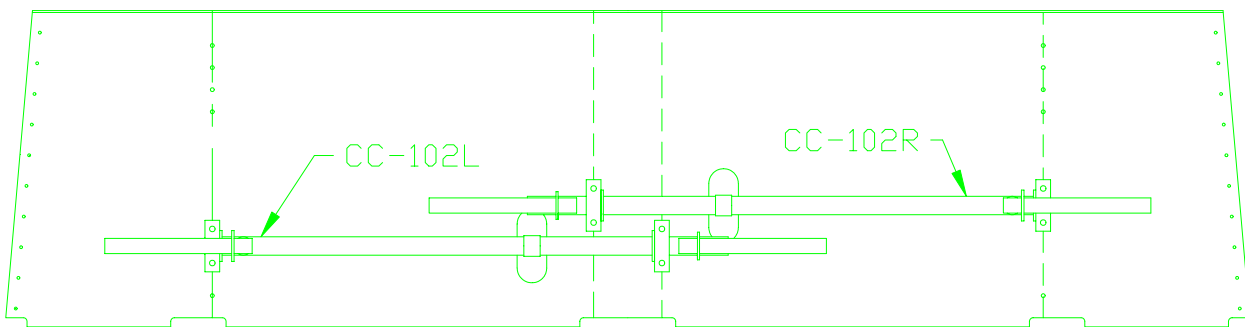

FIGURE 7
- 9) Center the two Rudder Pedal Assemblies (CC-102L and CC-102R) over the horizontal guidelines so the RP-13-1 bearings are centered over the vertical guidelines. Figure 7.